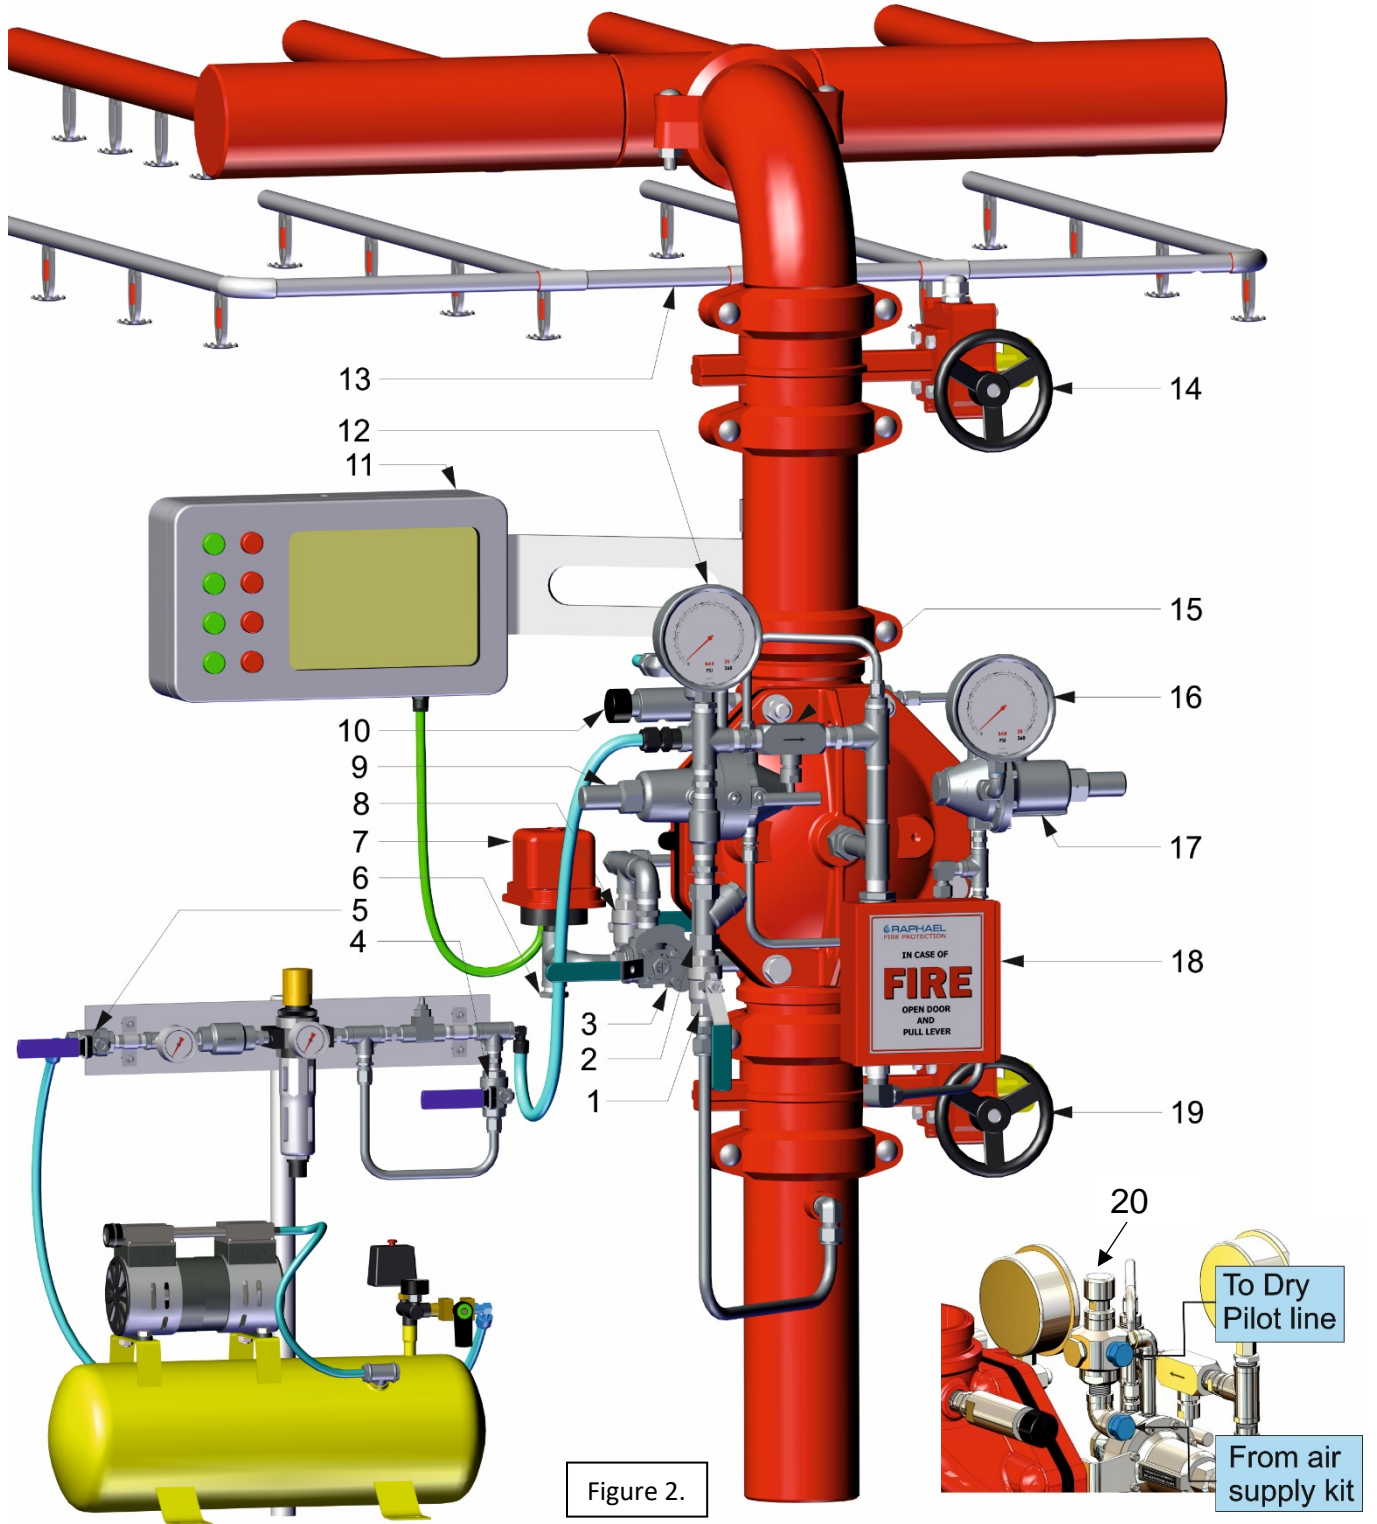

Figure 2.
Installation (Reference Figure 2)
9. All connections to water supply, alarms etc. should be done in accordance with **fig 2**:
(reference - figure 2)
The procedure described should be carried out after system installation completion and a comprehensive inspection. (Reference Drawing - figure 2)
Fire Situation Simulation (Reference Drawing - figure 2)
(Reference drawing - figure 2)
Resetting & placing in service (Reference Drawing - figure 2)